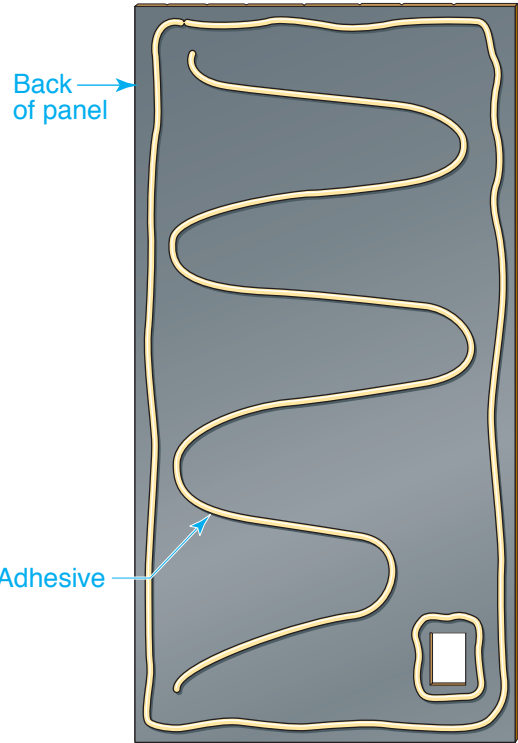

Figure 28-6 Adhesive Bonding
- of the panel and around any cutouts, as shown in **Figure 28-6**.